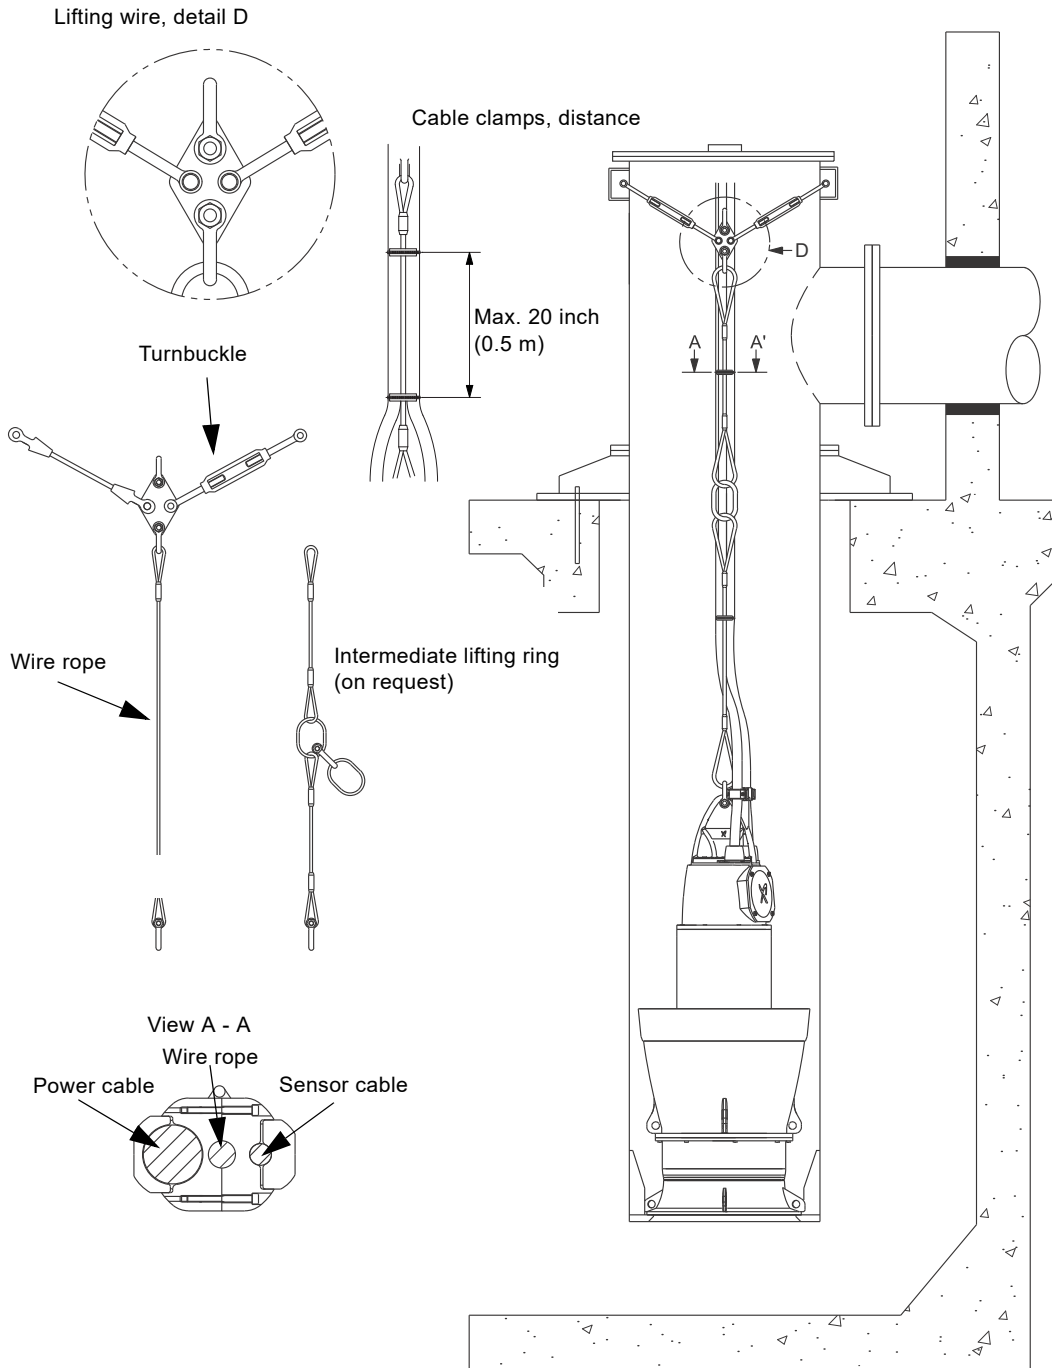

Fig. 15 Securing the cables to the lifting wire
1. Clamp the wire rope and all cables together. Make sure there is 20 inches (0.5 m) distance between the clamps adapted to the weight of the cables. See fig. 15. Fasten the wire rope to the eye at the top of the column pipe.
Figure 15 indicates a principle sketch only - the cable suspension system may be adapted to the specific pump type.